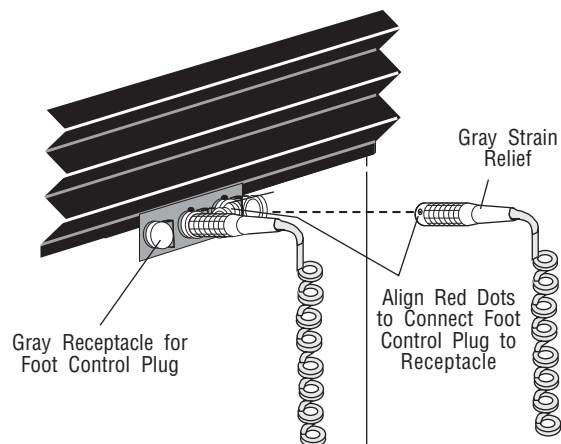

Figure 4-5. Foot Control Connection
2. Connect foot control assembly to table by aligning foot control cord gray plug red dot with table gray receptacle red dot, and pushing plug into connected position (see Figure 4-5).